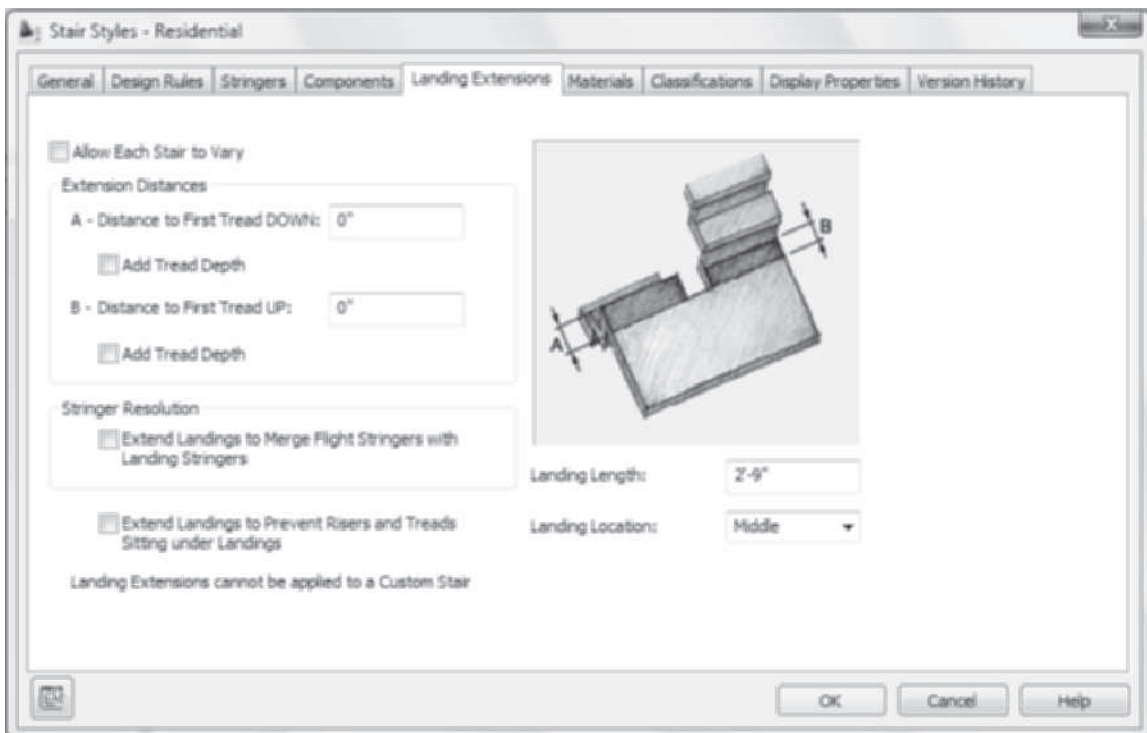

FIGURE 9.40 Components tab of the Stair Styles – Residential dialog box
- Refer to Figure 9.40 and select the **Landing Extensions** tab, then edit as follows: clear the **Allow Each Stair to Vary** checkbox, set A-Distance to First Tread Down = **0**, clear the **Add Tread Depth** checkbox, set B-Distance to First Tread UP = **0**, clear the **Add Tread Depth** checkbox, clear the **Extend Landings to Merge Flight Stringers with Landing Stringers** checkbox, clear the **Extend Landings to Prevent Risers & Treads Sitting under Landings** checkbox, set Landing Length = **2'-9"** [850], and set Landing Location = **Middle**.